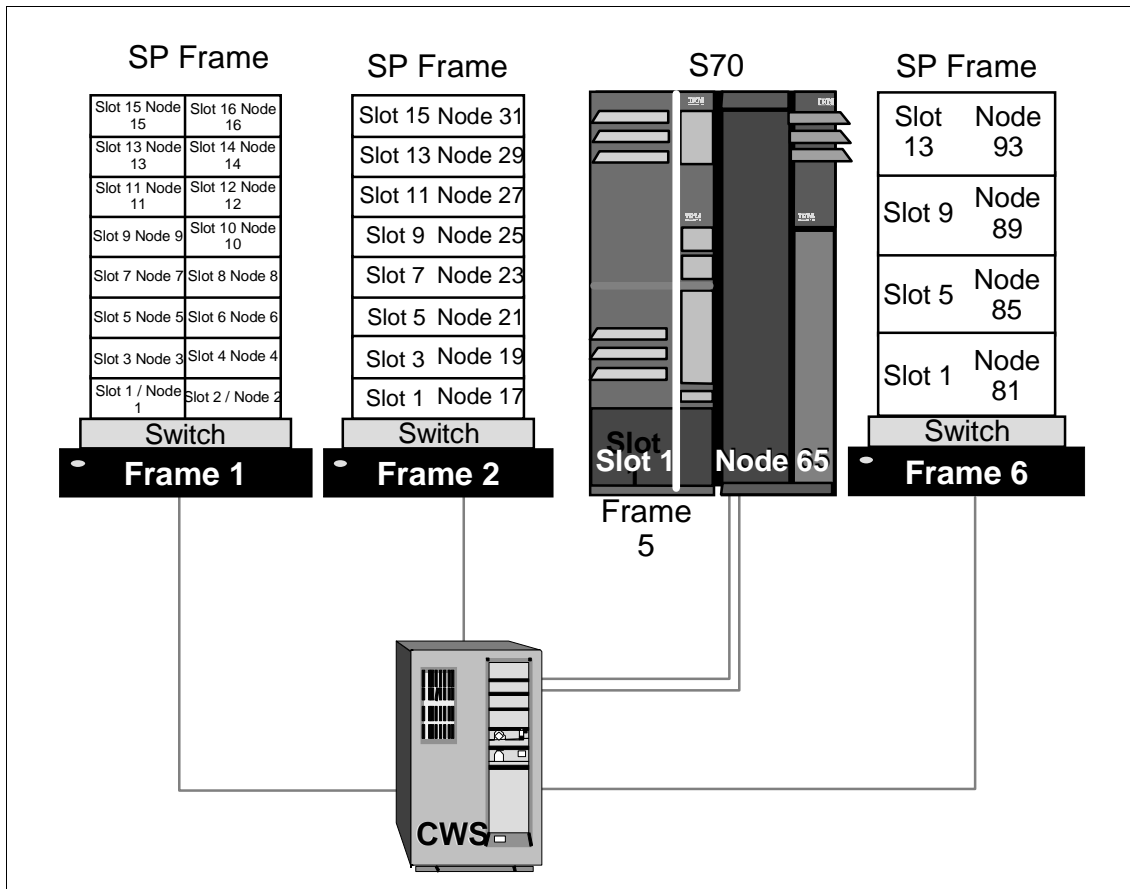

Figure 76. Node Numbering
- Each SP-attached server installed in the SP system subtracts one node from the total node count allowed in the system. However, as the server has frame-like features, it reserves sixteen node numbers that are used in determining the node number of nodes placed after the attached server. The algorithm for calculating the node\_number is demonstrated in Figure 76; for further information on the frame numbering issue, refer to Figure 92 on page 166: